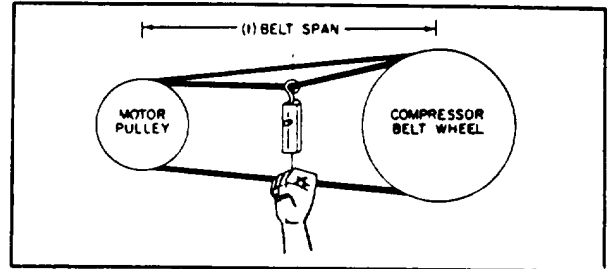

Figure 6-4. Spring Scale Method.
- A. Measure the belt span (t) as shown in Figure 6-4.